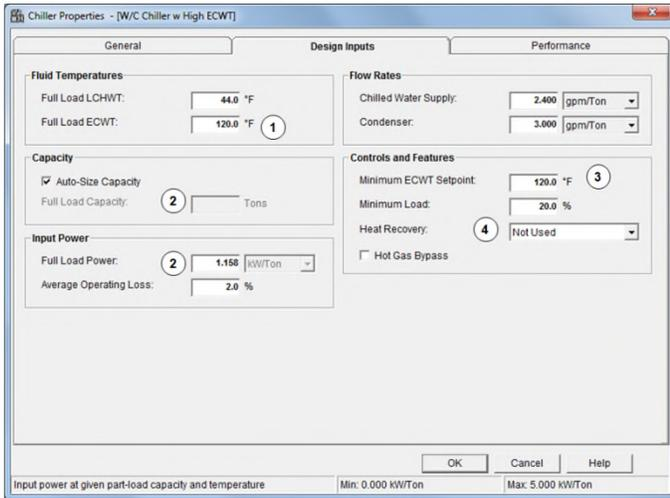

Figure 4.
- **Full Load ECWT** (see 1 in Figure 4) - An elevated value of full load entering condenser water temperature (ECWT) must be specified to facilitate heat recovery. As discussed earlier, heat recovery in this system can only occur if the leaving condenser water temperature is higher than the temperature of return water in the heating system. Only with this condition can heat be transferred through the heat exchanger from condenser loop to heating system. The full load ECWT and the condenser delta-T must be synchronized with operating temperatures in the heating system so heat recovery can occur.
- **Chiller Capacity and Full Load Input Power** (see 2 in Figure 4) must be set according to how the chiller performs at the elevated ECWT. Capacity will be lower and input power will be higher than a chiller operating at conventional design temperatures like 85 F (29.4 C) ECWT.
- **Minimum ECWT** (see 3 in Figure 4) – Since elevated condenser water temperatures are needed to recover heat in this system, the minimum ECWT is typically set to an elevated value as well. Often it is set to the full load value. For example, if Full Load ECWT is set to 120 F, minimum ECWT might be set to 120 F to hold condenser water leaving temperature at a constant value to facilitate heat recovery.
- **Heat Recovery** (see 4 in Figure 4) – For this application select “not used” because special additional components are not used. Heat recovery is a byproduct of chiller operation in this application.